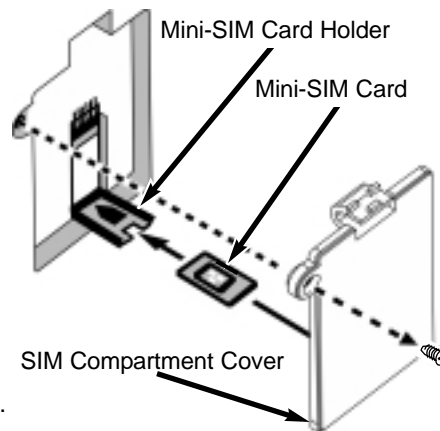

Figure 6 – Mini-SIM Card Installation.
- 2) Remove the SIM compartment cover by removing the screw - see **Figure 6**.
- 5) Gently insert the mini-SIM card in the slot of the SIM card holder - see **Figure 6**.